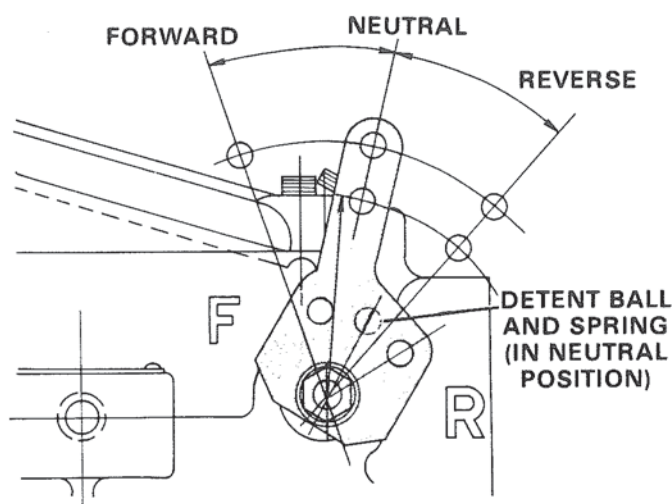

Figure 1. Shift Lever Positions.
A detent ball and spring assembly properly locates the shift lever in three (3) positions: forward, neutral and reverse. Figure 1.
The transmission is fast shifting to give the boat operator complete control of the vessel. Shifting is accomplished by the fore and aft movement of the shift lever. Figure 1. This movement rotates the control valve and directs oil under controlled pressure to the required channels. Oil pressure is provided by the crescent type pump, the drive gear of which is keyed to the drive shaft and operates at transmission input speed to provide screened oil to the pressure regulator.